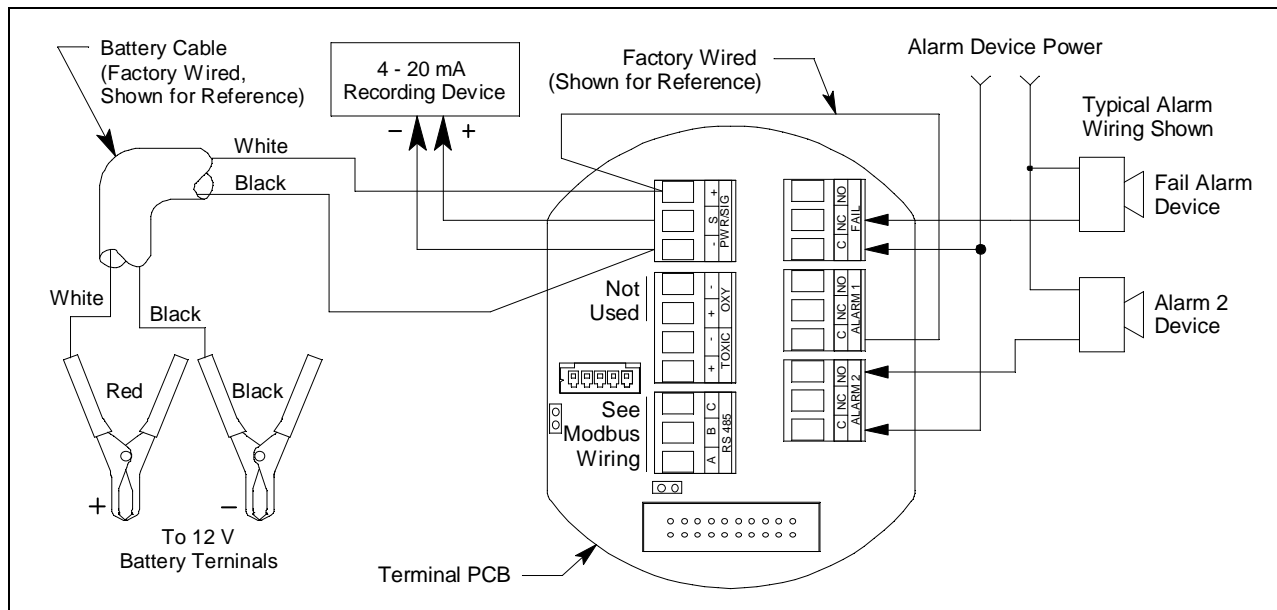

Figure 10: Rig Monitor Field Wiring
10. Connect the leads from the external alarm to the appropriate terminals on the appropriate relay terminal strip as shown in Figure 10 to obtain the desired operation.
6. Locate the 4-20 mA out terminals on the power/signal terminal strip. See Figure 10 to assist you in locating the 4-20 mA out terminals. They are labelled "S" and "-".
10. Connect the leads from the recording device to the 4-20 mA out terminal strip as shown in Figure 10. When connecting to the - terminal, take care to maintain the existing factory wiring to the - terminal.